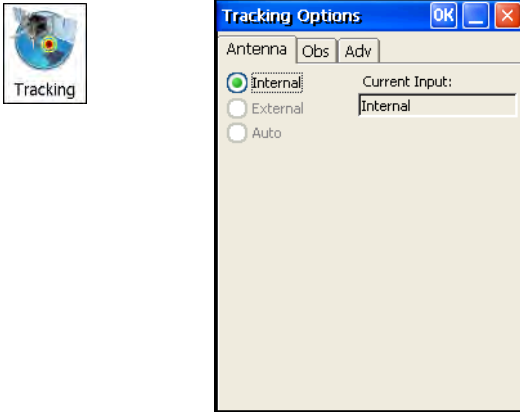

Figure 3-19. Set Antenna Usage
8. Click the **Tracking** icon, and set the antenna type used with the connected receiver (Figure 3-19).
16. For RTK Rover receivers, click the **Status** icon (Figure 3-19 on page 3-21) to ensure the receiver obtains differential corrections. Usually, the receiver will start to output the coordinates of the antenna's phase center along with the solution type within 10–30 seconds. However, radios may take as long as 60 seconds to synchronize.